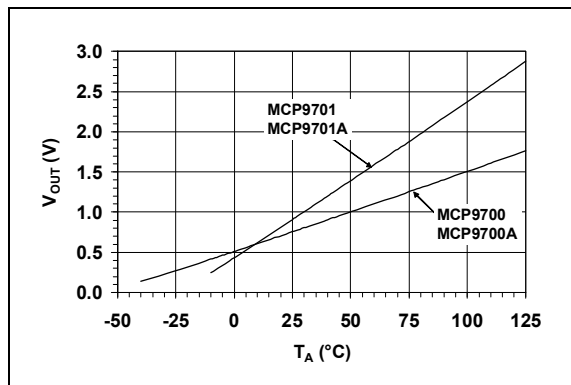

FIGURE 2-16: Output Voltage vs. Ambient Temperature.
2: The MCP9700/9700A and MCP9701/9701A family is characterized using the first-order or linear equation, as shown in Equation 4-2. Also refer to Figure 2-16.
- 2:** The MCP9700/9700A and MCP9701/9701A family is characterized using the first-order or linear equation, as shown in Equation 4-2. Also refer to Figure 2-16.
The Linear Active Thermistor™ IC uses an internal diode to measure temperature. The diode electrical characteristics have a temperature coefficient that provides a change in voltage based on the relative ambient temperature from -40°C to 150°C. The change in voltage is scaled to a temperature coefficient of 10.0 mV/°C (typical) for the MCP9700/9700A and 19.5 mV/°C (typical) for the MCP9701/9701A. The output voltage at 0°C is also scaled to 500 mV (typical) and 400 mV (typical) for the MCP9700/9700A and MCP9701/9701A, respectively. This linear scale is described in the first-order transfer function shown in Equation 4-1 and Figure 2-16.